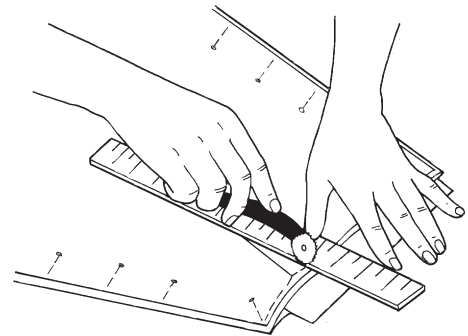

Fig. 6-8
2. Roll the tracing wheel along the necessary markings. Using a ruler will help keep the lines straight. Mark the dots with an "X." (Fig. 6-8)